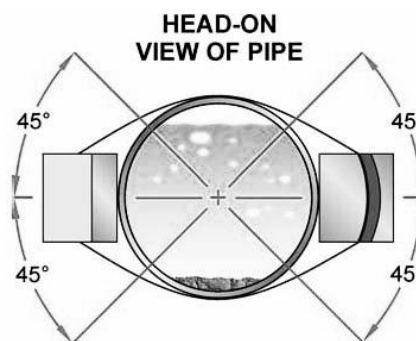

Figure 2.1
The transducers must be properly oriented on the pipe to provide optimum reliability and performance. On horizontal pipes, the transducers should be mounted 180 radial degrees from one another and at least 45 degrees from the top-dead-center and bottom-dead-center of the pipe. See Figure 2.1. Figure 2.1 does not apply to vertically oriented pipes.
3. Crease the paper at the fold line. Mark the crease. Place a mark on the pipe where one of the transducers will be located. See **Figure 2.1** for acceptable radial orientations. Wrap the template back around the pipe, placing the beginning of the paper and one corner in the location of the mark. Move to the other side of the pipe and mark the pipe at the ends of the crease. Measure from the end of the crease directly across the pipe from the first transducer location) the dimension derived in Step 2, Transducer Spacing. Mark this location on the pipe.